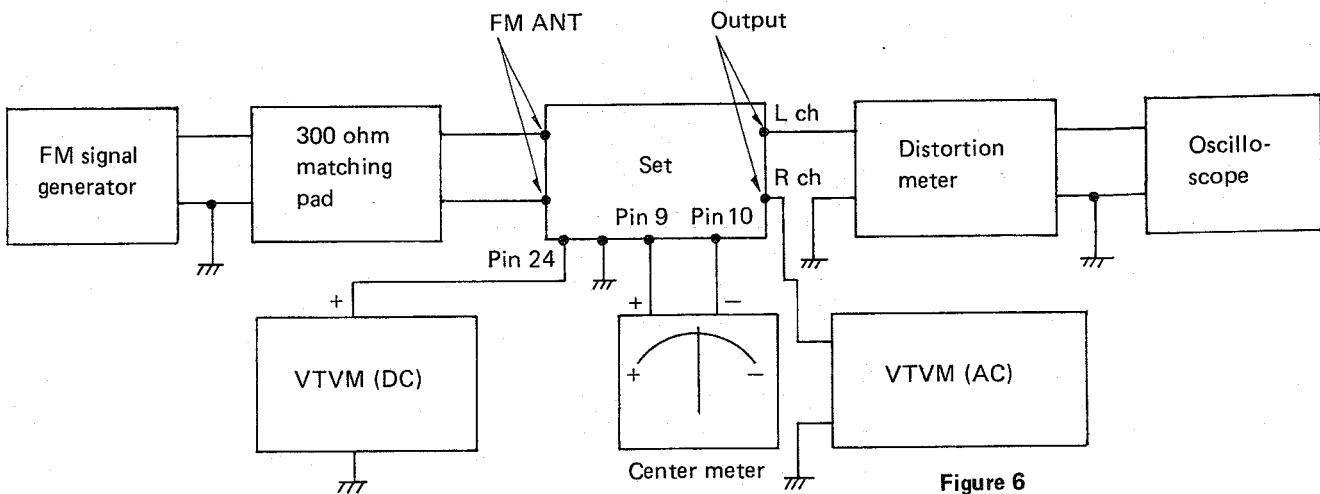

Figure 6
- (1) Connect test equipments as shown in Figure 6.
- (2) Push the FM button.
- (3) Set the MUTING switch to OFF (■).
- (4) Generator modulation.. 1 kHz (75 kHz dev.)
- (5) Proceed as outlined in the TABLE 3. FM ALIGNMENT CHART.